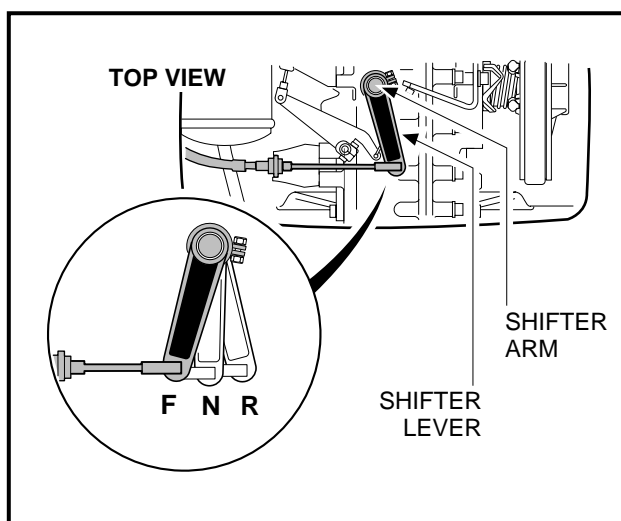

Figure 16-1 Shifter Positions
A shifter lever, connected to a shifter arm on the unitized transaxle, is used to change the gears to one of three shift positions: FORWARD (F), NEUTRAL (N), or REVERSE (R) (**Figure 16-1, Page 16-2**). The vehicle should come to a complete stop before changing FORWARD or REVERSE direction.